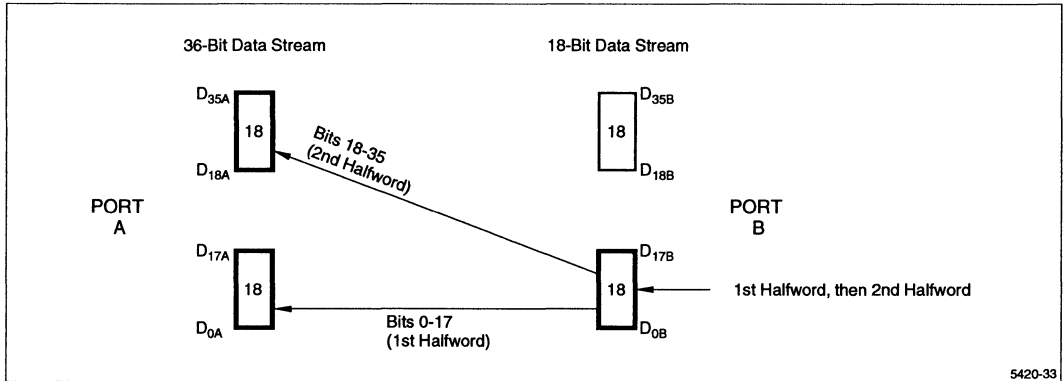
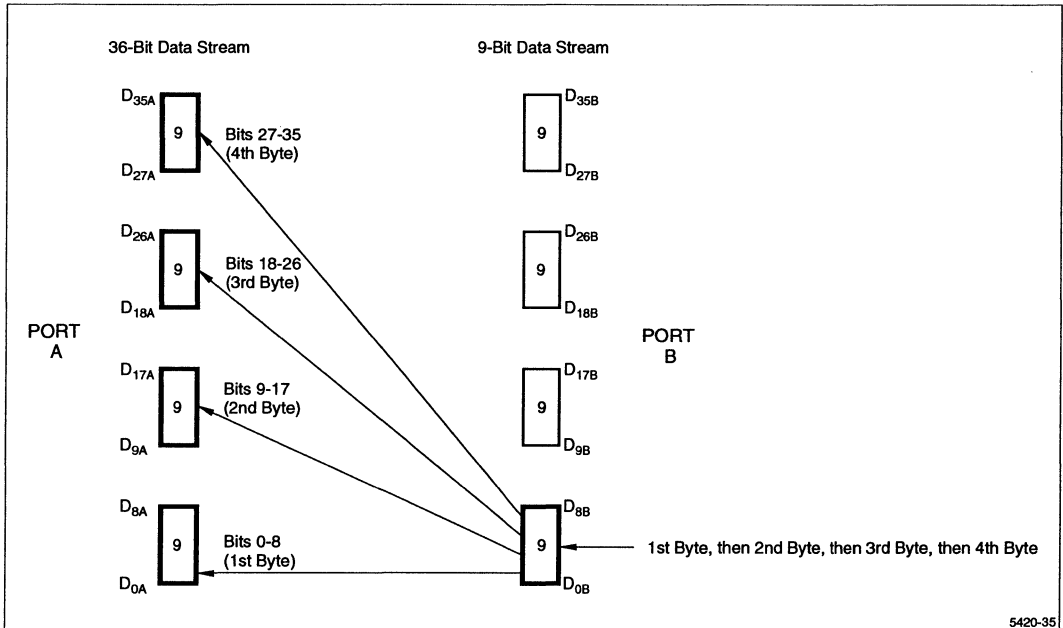

Figure 7a. 18-to-36 Defunneling Through FIFO #2
Figure 7b. 9-to-36 Defunneling Through FIFO #2
2. The defunneling process does not change the ordering of bits within a byte. Halfwords (Figure 7a) or bytes (Figure 7b) are transferred in parallel form from Port B to Port A.